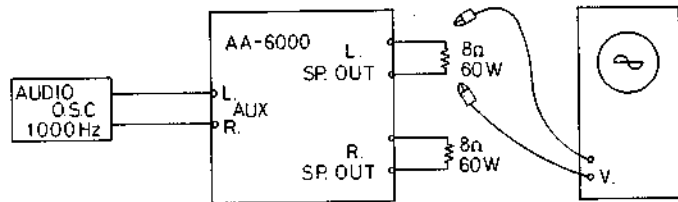

Fig. 1
- Connect an 8 Ω 60 W resistor to the left and right channel speaker terminals, and connect the oscilloscope across this resistor (See Fig. 1).